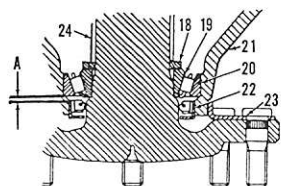

Fig. 246—When installing seal (22), make sure clearance (A) between seal and bearing cup (20) is 0.010. Refer to Fig. 244 for parts identification.
The seal bore in drive cover (21) is not shouldered. When installing the seal, refer to Fig. 246 and install seal so that 0.010 clearance exists between inner edge of seal (22) and outer edge of bearing cup (20) as shown at (A).